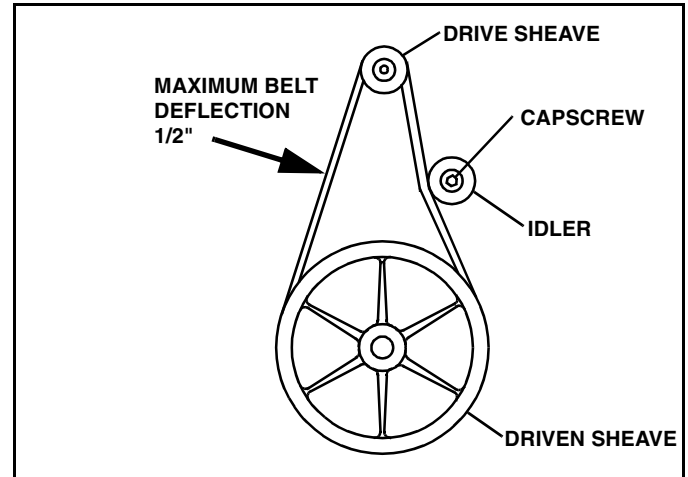

Figure 3-3
4. Loosen cap screw/nut retaining belt tensioner to crossbrace. (See Figure 3-3)
5. Adjust idler until belt opposite idler has 1/2 inch deflection. (See Figure 3-3)